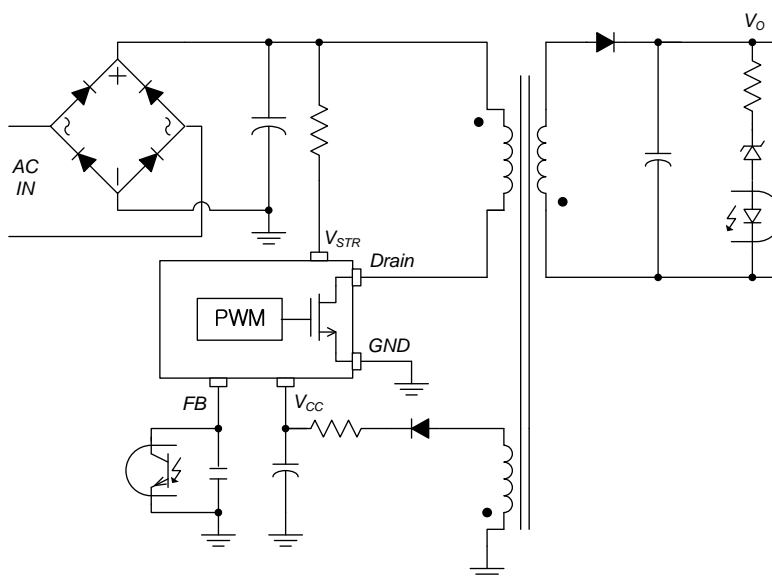

Figure 1. Typical Application Circuit
6. Repetitive peak switching current when the inductive load is assumed: Limited by maximum duty ($D_{MAX}=0.74$) and junction temperature (see Figure 1).